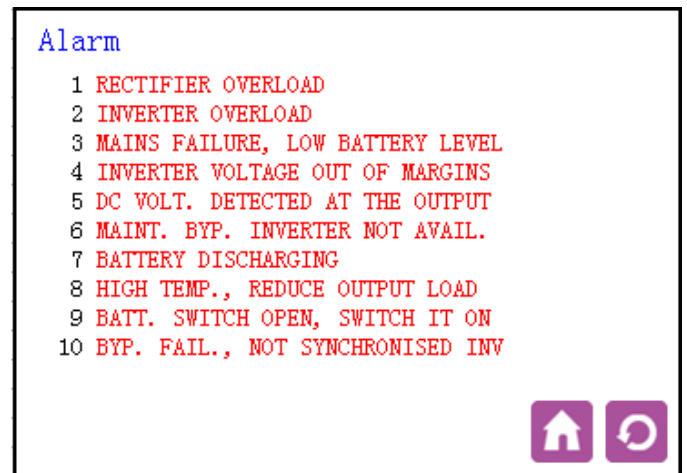

Fig 48 Screen 4.0 «Alarms »
**7.3.5. "Alarms" level (screen menu 4.0). See fig. 48.**
Figure 48 is showing just only some alarms as an example, but there could be some of them, the active ones. In table 6, there are all the possible alarms displayed in the display LCD.